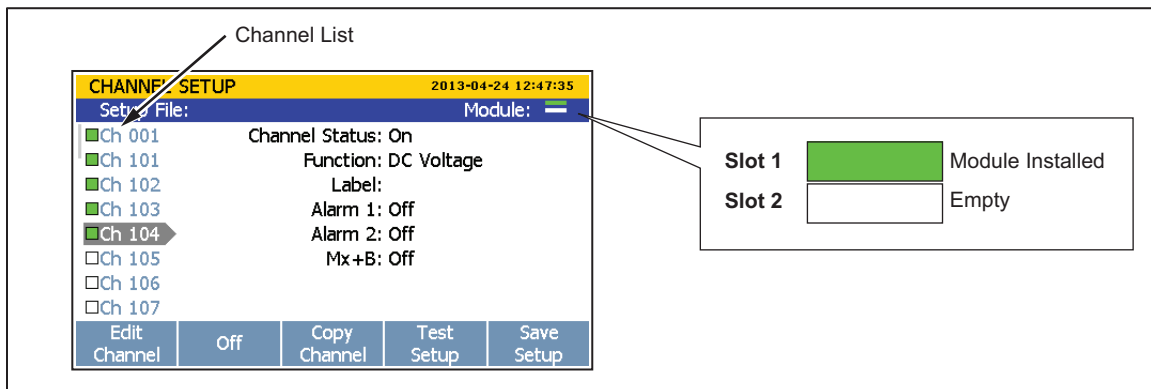

Figure 3-4. Module Indicator (Input Module Installed Shown)
8. Power on the Product with the main power switch. After powered on, the Product tests the connection to the Input Module. If the Input Module is recognized, the module indicator changes to green and shows all channels available on the left side of the Channel Setup menu as shown in Figure 3-4. If the module indicator does not turn green, refer to the troubleshooting information in Chapter 4.